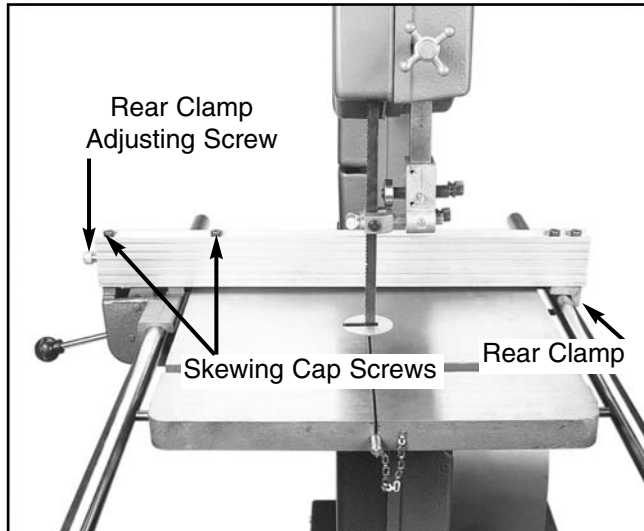

Figure 27. Fence controls.
1. Back out the rear clamp adjusting screw several turns and put the locking lever in the locked position as shown in **Figure 27**.
4. Loosen the two skewing cap screws on top of the fence. **Figure 27.**